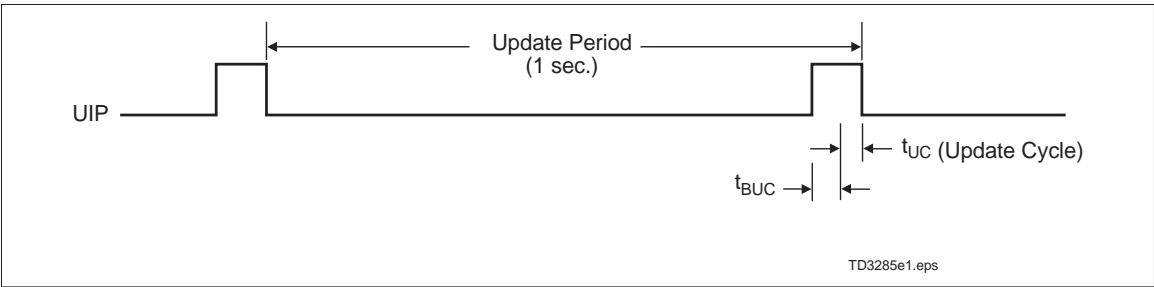

Figure 2. Update Period Timing and UIP
each update period (see Figure 2). The alarm flag bit may also be set during the update cycle.
The update-in-progress bit (UIP) in register A is set  $t_{BUC}$  time before the beginning of an update cycle (see Figure 2). This bit is cleared and the update-complete flag (UF) is set at the end of the update cycle.